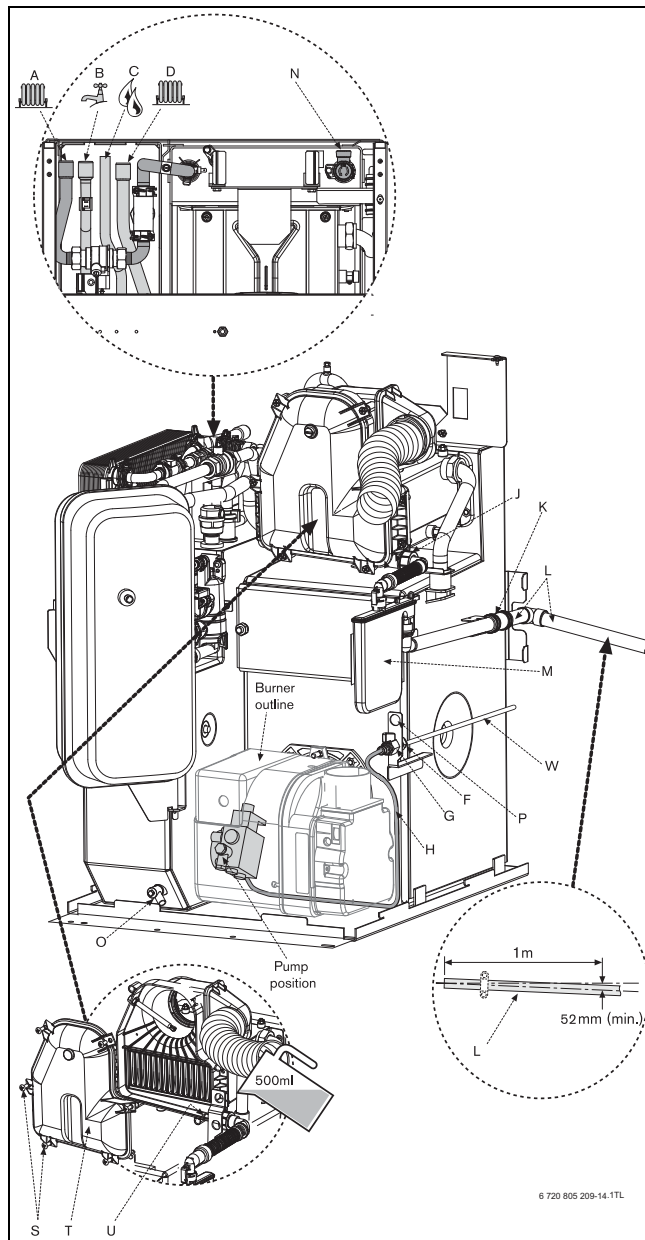

Fig. 36 Pipe connections
2. Connect the flexible oil pipe return hose [3] (not supplied) to the oil pump and return pipe fixing and tighten to secure (for routing see figure 36).
- ▶ Check that the burner is seated correctly on its mounting flange and that the oil hose/s are routed correctly as shown in Fig. 36 and not trapped in front of or underneath the burner.